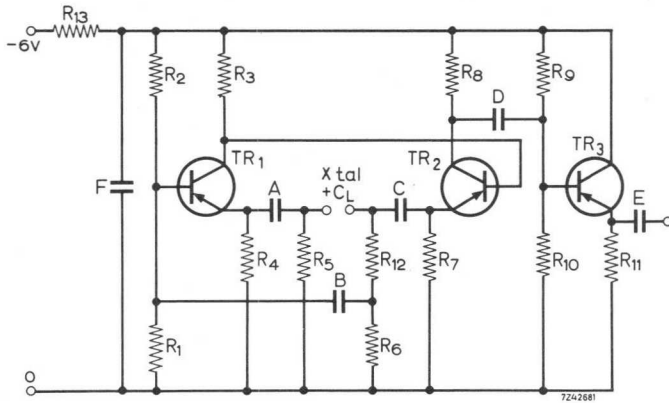

Fig.1
- 9) Oscillator circuit The crystal unit can only prove its properties in a well designed circuit, such as that of Fig.1. Fig.2 gives a lay-out of this circuit on a p.w.-board.